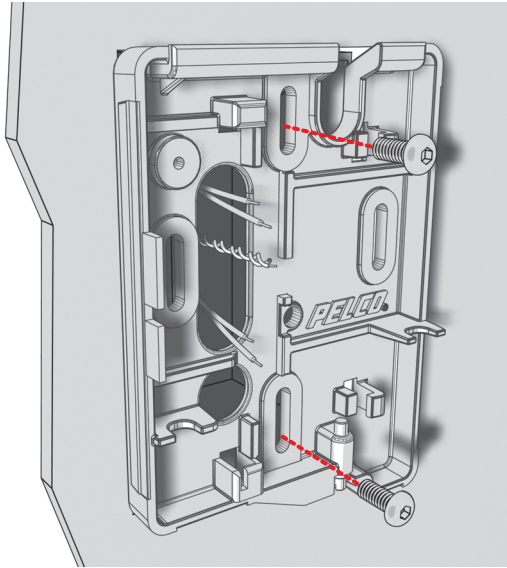

Figure 1. Mounting the Adapter Plate
2. Thread the 24 VAC power, video (coaxial or UTP), and control wiring through the large access hole in the adapter plate. Then attach the adapter plate to the mounting surface using either the top/bottom or left/right pair of mounting holes. (The top/bottom pair is shown in Figure 1.)